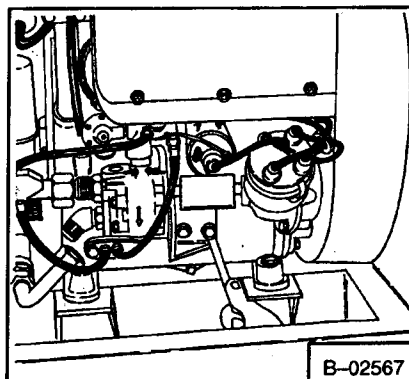

Fig. 4-57 Shimming Holding Bracket
- b. With bracket installed loosely shim between bracket and engine block, or grind off block to make alignment. Tighten bolts (Fig. 4-57).